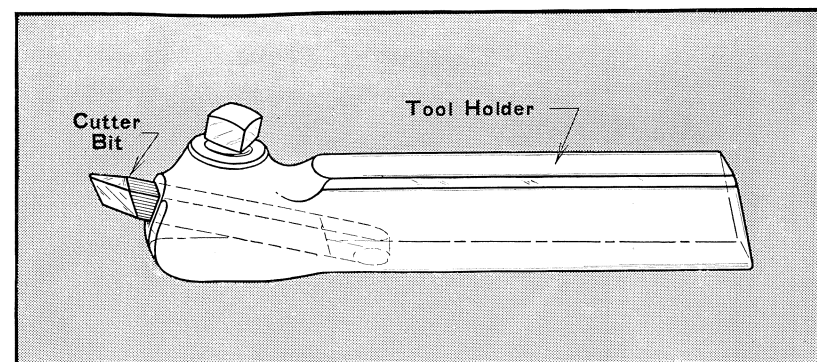

Fig. 2. Lathe tool holder with high speed steel inserted cutter bit.
The cutter bit is that part of the lathe tool which cuts the metal that must be removed to bring the work to the desired size and shape. The cutter bit is usually made of high speed steel and held in a lathe tool holder as shown in Fig. 2 at the top of the page.
**B—Round Nosed Turning Tool**—This tool is for general all around machine work and is used for taking light roughing cuts and finishing cuts. Usually, the top of the cutter bit is ground so that the tool may be fed from right to left although sometimes this cutter bit is ground flat on top so that the tool may be fed in either direction. (See Fig. 2, Plate I.)